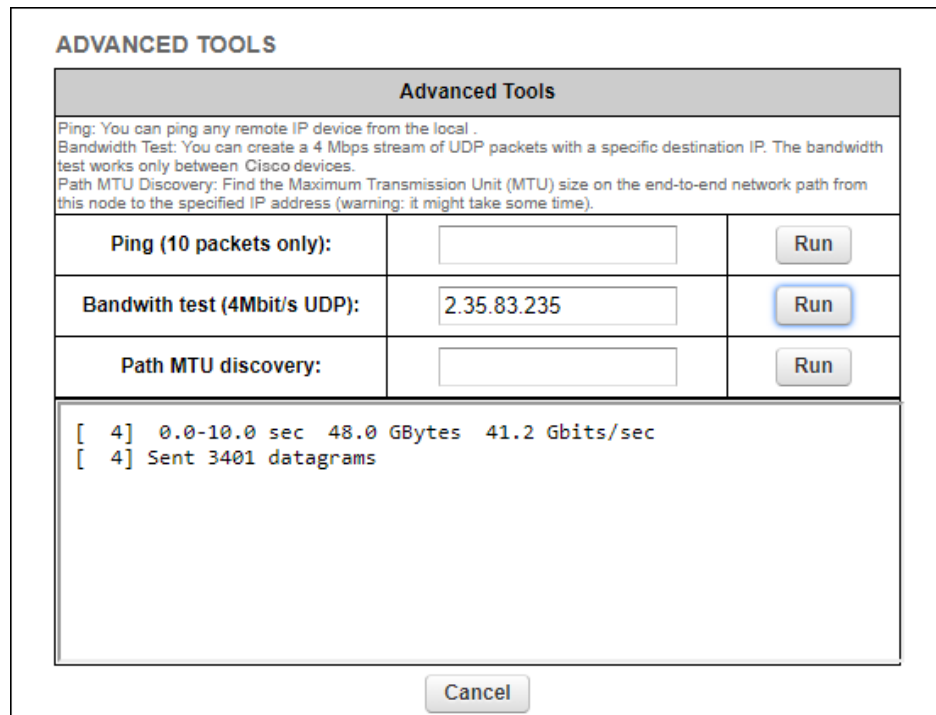

Figure 26. Advanced Tools window (Bandwidth test tool)
2. Enter the IP address of the other unit in the **Bandwidth test (4Mbit/s UDP)**: field (Figure 26 \(page 69\)).